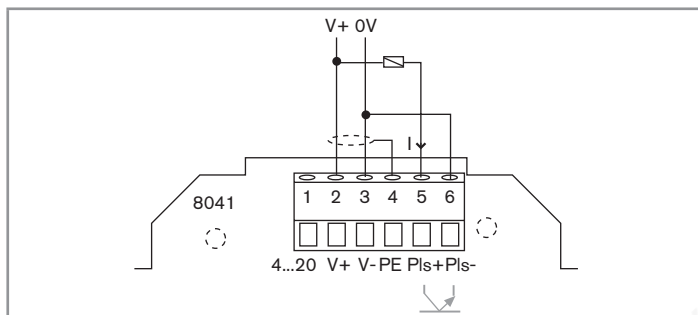

Fig. 21: Connection of the frequency output to an electromechanical counter or a relay
- or to a load such as an electromechanical counter or a relay (see Fig. 21),